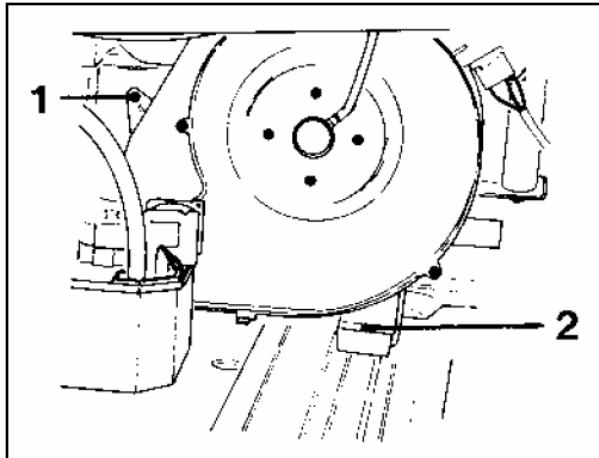

Figure 5-20: Cooling Fan Removal (Machine Nos. with Prefix 10/... or 11/...)
3. Remove screws (refer to Figure 5-20 – Cooling Fan Removal, Items 1 and 2).